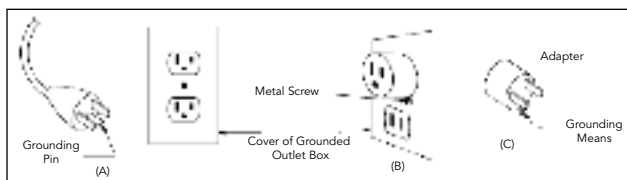

Figure 65.1
25. This product is for use on 120 volt electrical outlets. The cord has a plug as shown at A in Figure 65.1. An adapter, as shown at C, can be used to connect three-blade grounding-type plugs to two-slot receptacles (it is not included with your product). The green grounding lug extending from the adapter must be connected to a permanent ground such as a properly grounded outlet box. An adapter should not be used if a three-slot grounded receptacle is available. \*NOTE: A TWO-PRONG ADAPTOR IS NOT INCLUDED WITH THIS PRODUCT.